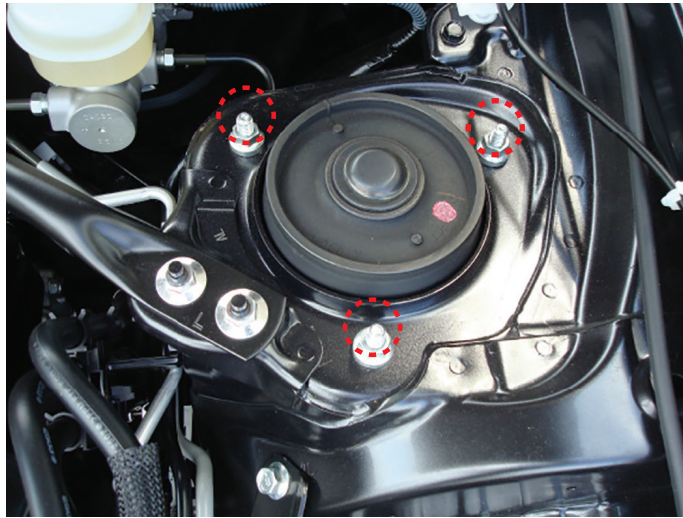

fig. 4
4. Unthread the three upper bracket nuts within the engine compartment and remove the strut from the vehicle (Fig. 4).